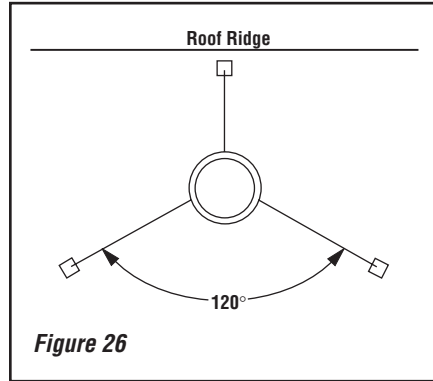

Figure 26
Note: If chimney extends more than 8' above roof surface, guy wires are also recommended. Use three (3) guy wires, attach to locking band assembly, extend and secure to roof in a triangular pattern (**Figure 26**). Guy wires are not supplied by the manufacturer.